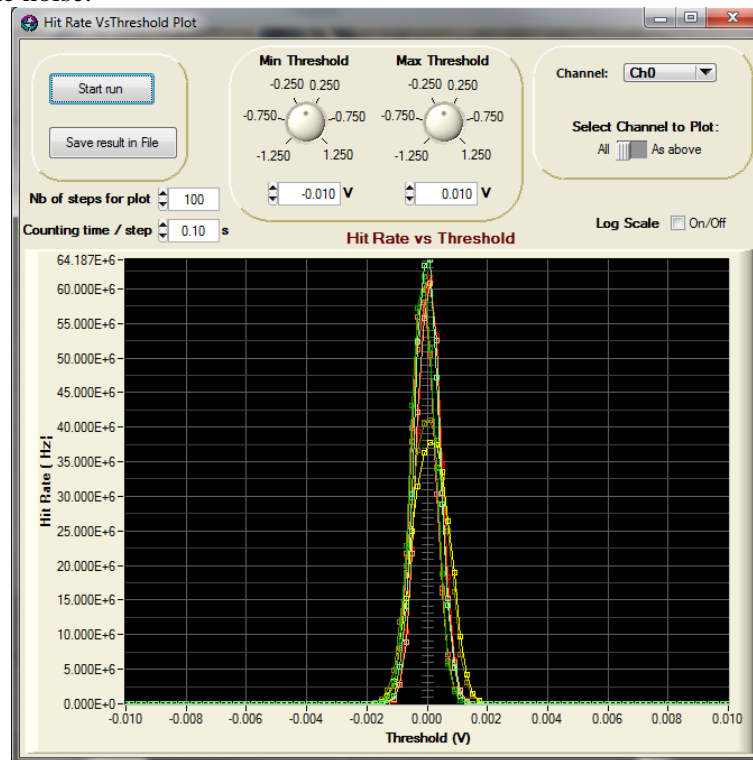

Figure 5.26: *Hit Rate Vs Threshold Plot* window
- **Hit Rate Vs Threshold Plot:** by clicking on this item, the user opens an eponym window (see Figure 5.26). In order to perform the pulsing, the On/Off checkbox has to be checked.
Figure 5.26 shows an example of use of this plot when no signal is put on the inputs and the thresholds cross the noise.
This menu (see **Figure 5.26**) permits getting help about the hardware and software.